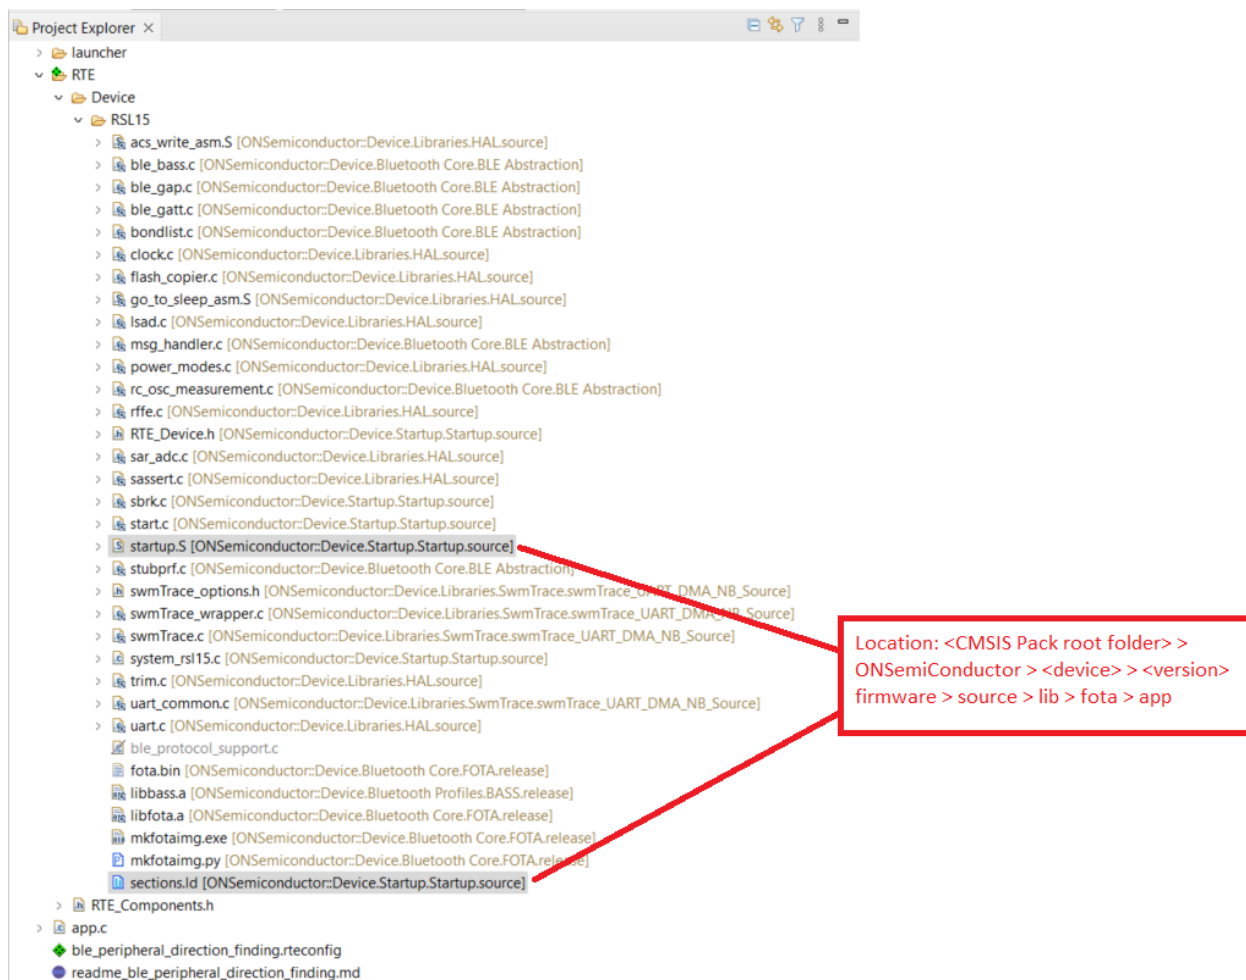

Figure 17. Replacing the sections.ld and startup.S Files
6. Replace your linker script `sections.ld` file with the one that contains the FOTA placement, and also replace your `startup.S` file, as shown in the figure "Replacing the sections.ld and startup.S Files" (Figure 17). The new linker script and `startup.S` file can be copied from `ble_peripheral_server_fota`, or directly from the CMSIS-Pack root folder as follows: